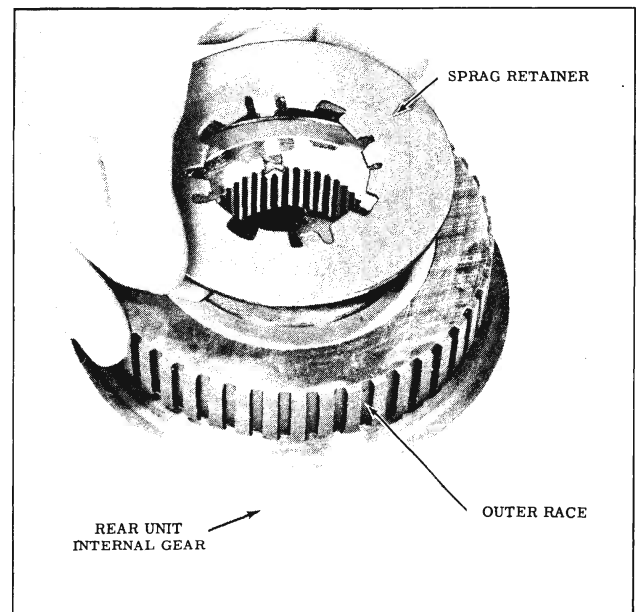

Fig. 3-83 Installing Sprag Retainer
6. Apply petrolatum on sprag retainer and install sprag retainer on internal gear aligning tangs with the internal gear slots. (Fig. 3-83)